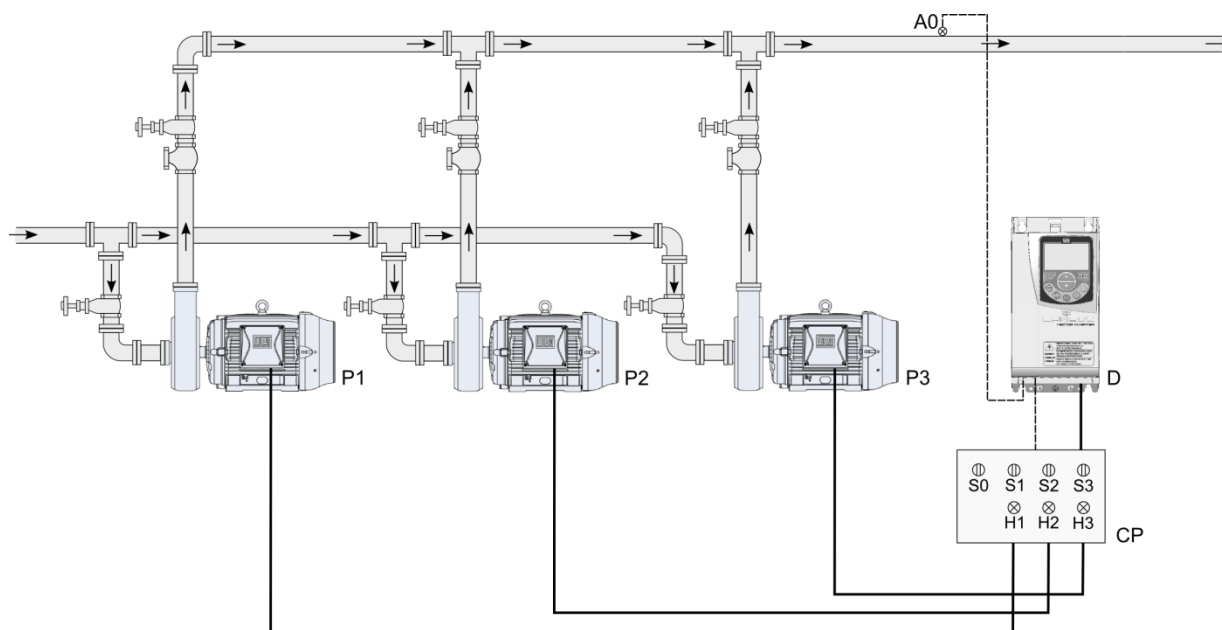

Figure 2.20 – Pump Genius Multipump application with floating control, three pumps in parallel and control setpoint via HMI
The figure 2.20 presents a typical system with three pumps and control setpoint via HMI basically composed of:
The signals H1, H2 and H3 are not necessary for the operation of the Pump Genius Multipump with floating control, three pumps in parallel and control setpoint via HMI, because they only serve to indicate the operating condition of the pumps on the command panel (CP). In the figure 2.20, the signals H1, H2 and H3 come from auxiliary contacts of contactors K1, K1.1, K2, K2.1, K3 and K3.1 which start the pumps 1, 2 and 3.